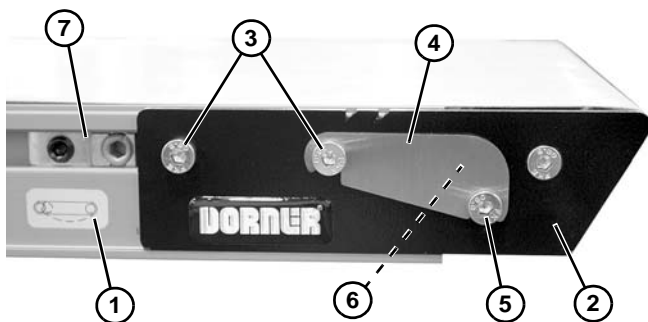

Figure 89
1. On tension end of the conveyor, identified with a  label (**Figure 89, item 1**), adjust head plate assembly (**Figure 89, item 2**):
- a. On both sides of conveyor, loosen fastening screws (**Figure 89, item 3**).
- b. If equipped with dust covers (**Figure 89, item 4**), loosen screw (**Figure 89, item 5**) and remove dust cover on both sides of conveyor. Tighten screw (**Figure 89, item 5**).
- c. Rotate pinion gear (**Figure 89, item 6**) to adjust head plate assembly.
3. After adjusting proper tensioning, tighten fastening screws (**Figure 89, item 3**) on both sides of conveyor to 60 in-lb (7 Nm).
4. If equipped, install dust covers (**Figure 89, item 4**).
5. If equipped with cam tracking assemblies (**Figure 89, item 7**) position against head plates and adjust belt tracking. Refer to "Conveyor Belt Tracking", next section.